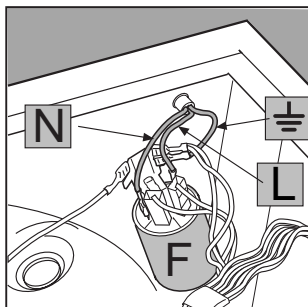

Fig. 4
3. Disconnect the wires from the radio interference suppressor F [fig. 4] noting as to their position (**Blue=N** wire; **Brown=L** wire) leaving the earth wire until last \perp .